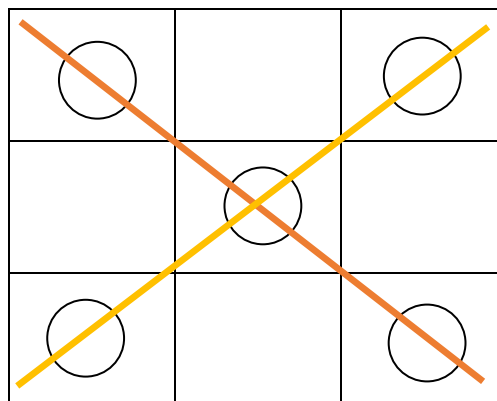

Figure 5 Putting 5 targets in the holes gets 5 points, and two connection lines get 6 points (3 points per connection line). Thus, the total points are 11.
- 5.2 Putting one battery in one hole getting 1 Point. If three batteries are put in the holes that can be connected to one line, the participant get special bonus, 3 point. As shown in Figure 5, there are two connection lines in the game. The participant gets 6 points for special bonus. In addition to 5 points because of five batteries in the holes, the participant gets 11 point in total.